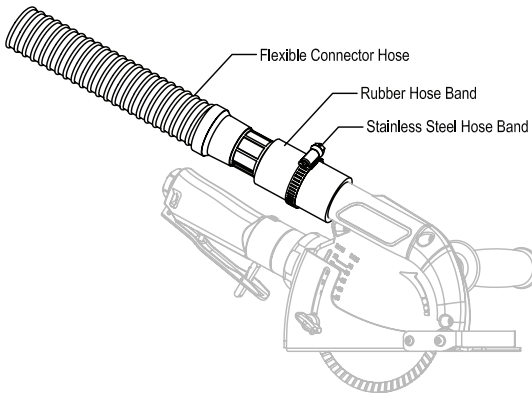

Figure 13
1. Attach the Dust Collector Hose to the Dust Collection Cover (Fig.13)